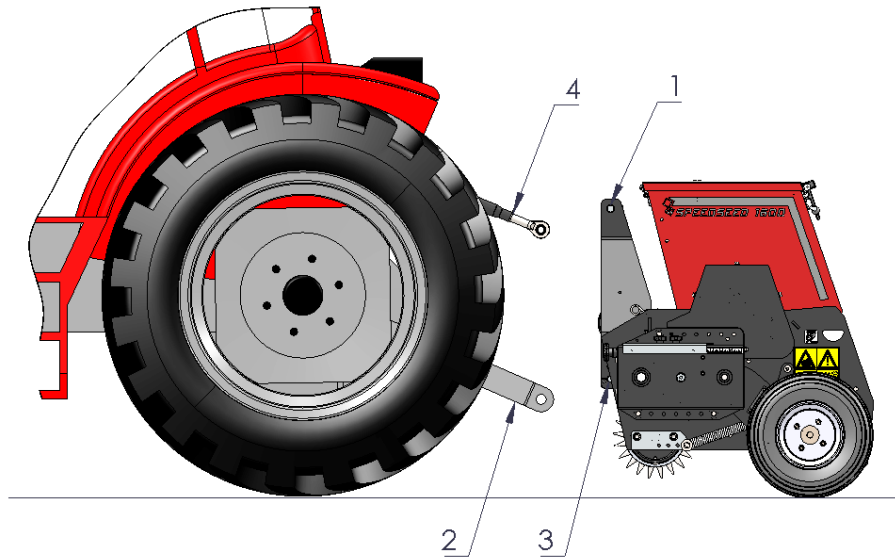

Figure 2
1. Remove **the 3-point pins (1) at the top** from the machine (**see Figure 2**).
The machine should be detached in the following manner (see **Figure 2**):